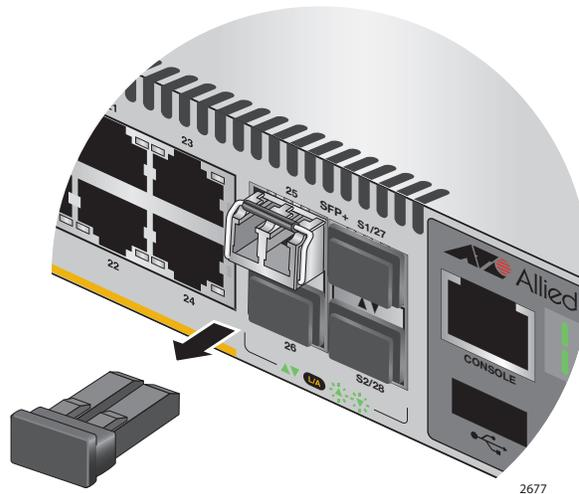

Figure 72. Removing the Dust Cover from an SFP or SFP+ Transceiver
- Remove the dust cover from the transceiver, as shown in Figure 72.